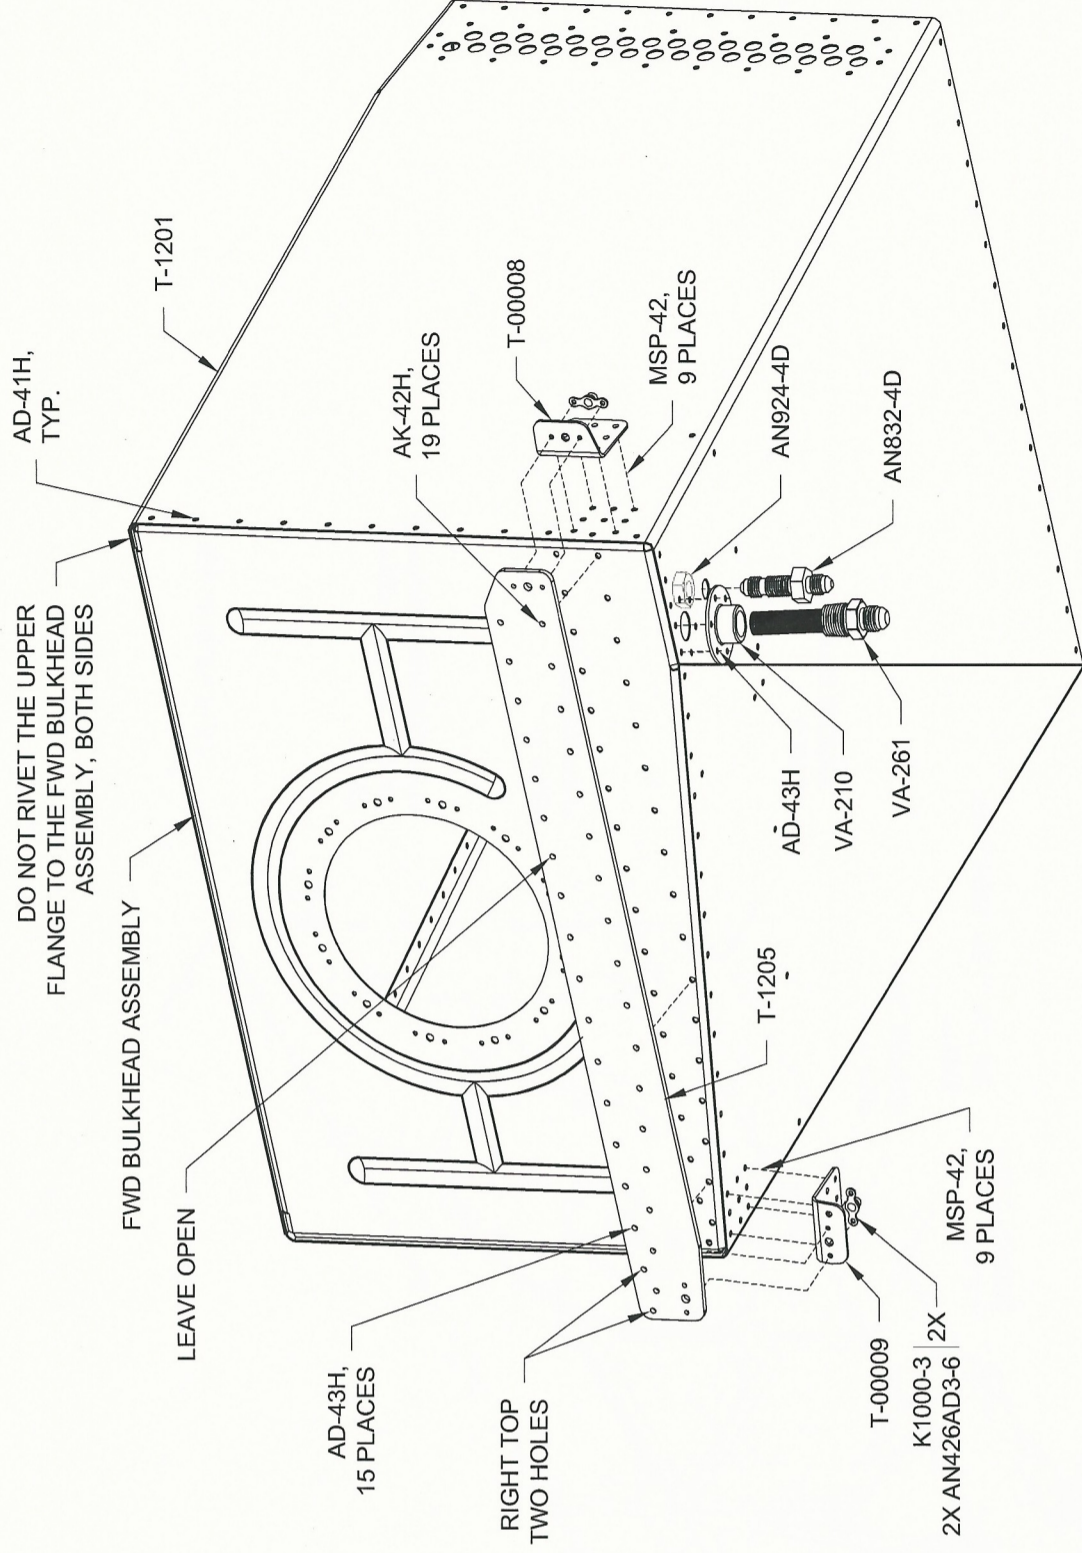

FIGURE 3: ADDING THE MAIN TANK SKIN
Step 6: Machine countersink the #40 holes on the forward side of the T-1205 Fwd Tank Bracket for the rivets called out in Figure 3 and deburr.
Step 7: Machine countersink the lower row and right two top #30 holes on the forward side of the T-1205 Fwd Tank Bracket for the rivets called out in Figure 3. Deburr the edges of the fwd tank bracket.
Step 8: Rivet the VA-210 Fuel Flange and the T-1201 Main Tank Skin to the Fwd Bulkhead Assembly per call-outs in Figure 3.
Step 9: Install the AN832-4D bulkhead fitting to the T-1201 Main Tank Skin per call-outs in Figure 3.
Step 10: Rivet the T-1205 Fwd Tank Bracket to the Fwd Bulkhead Assembly using rivets called out in Figure 3.
Step 11: Rivet the T-00008 Inboard Clip and T-00009 Outboard Clip to the T-1201 Main Tank Skin as shown in Figure 3.
Step 12: Rivet a nutplate to the T-1205 Fwd Tank Bracket and T-00008 Inboard Clip as shown in Figure 3.
Rivet a second nutplate to the fwd tank bracket and T-00009 Outboard Clip as shown in Figure 3.
Step 13: After the sealant cures, install the VA-261 Fuel Strainer as shown in Figure 3.